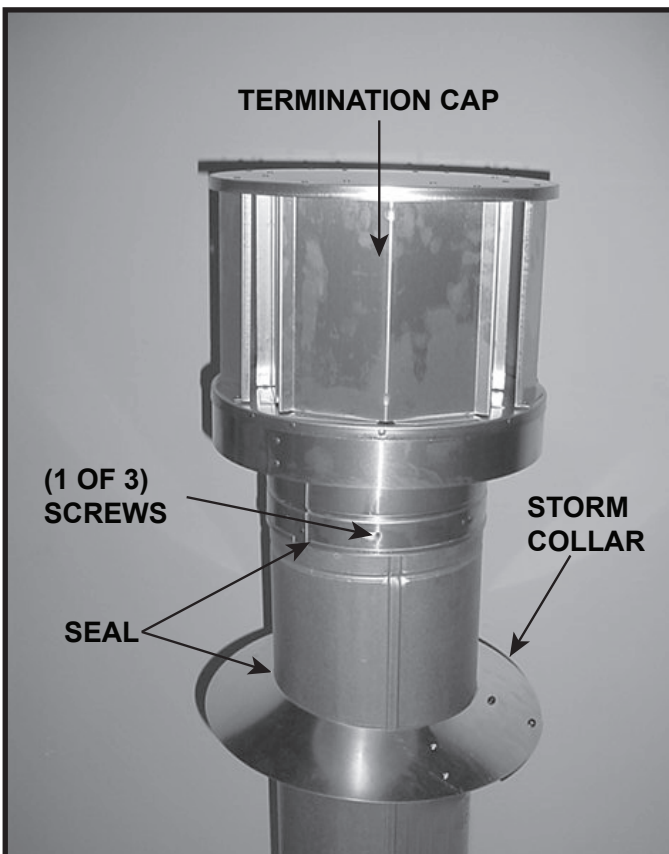

Figure 7.14
- Seal around the top of the storm collar. See Figure 7.14.
- Secure the cap by driving three self-tapping screws (supplied) through the pilot holes in the outer collar of the cap into the outer flue of the pipe (see Figure 7.14).